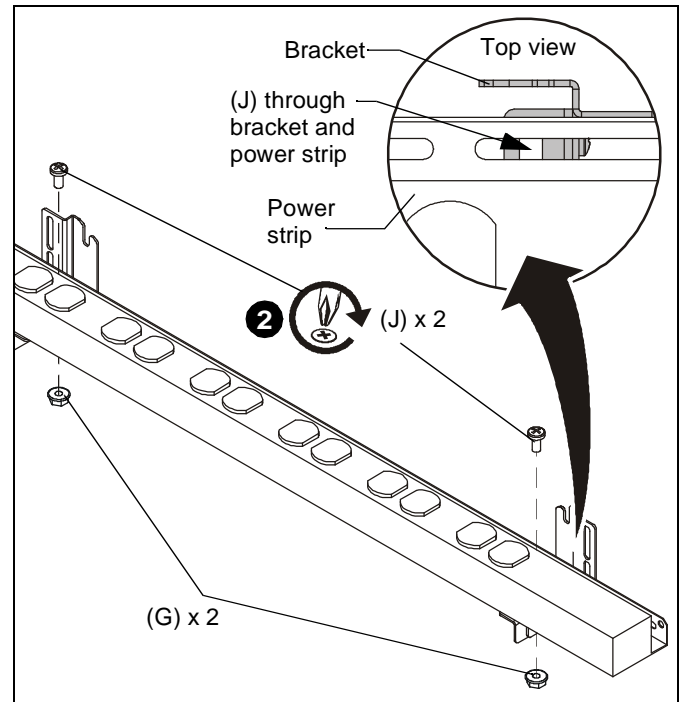

Figure 6
7. **OPTIONAL (attaching power strip):** Attach power strip (not included) to bracket assemblies through slots in retaining brackets and in power strip using two 1/4-20 x 1/2" Phillips head screws (J) and two hex nuts with flange (G). (See Figure 6)